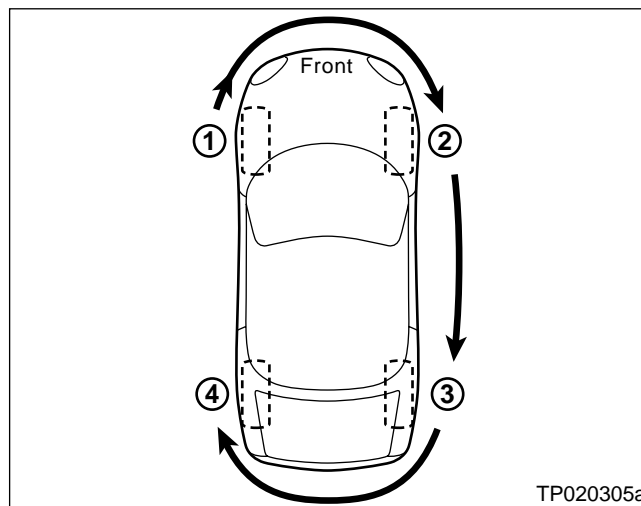

Figure 3
IMPORTANT: The wheel transmitters must be activated in the order shown in Figure 3.
6. **Perform** step 5 on the remaining wheel transmitters in the order shown in Figure 3.